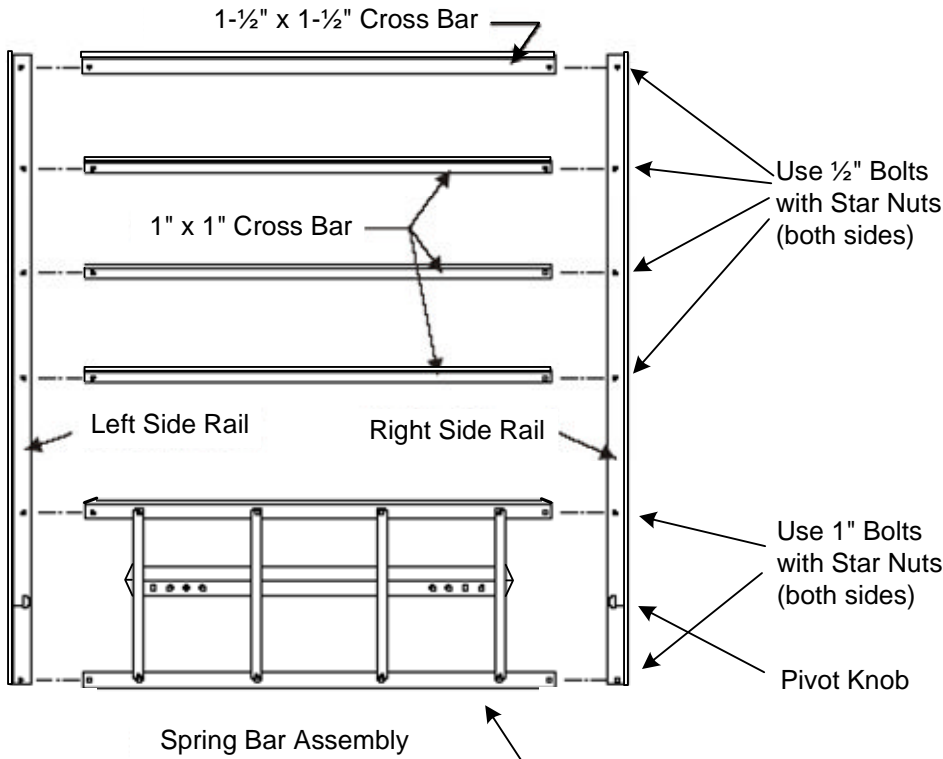

Figure 3
10. Lay parts flat out on floor so holes in Cross Bars are on floor and angle is pointing up and Pivot Knob is visible on Side Rails as shown in Figure 3.